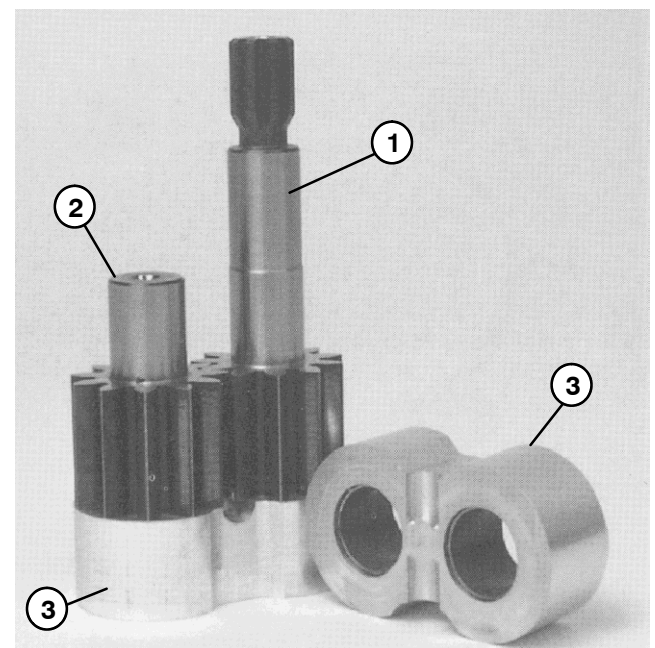

Figure 70
3. Inspect drive gear, idler gear and bearing blocks (Fig. 70) for the following: